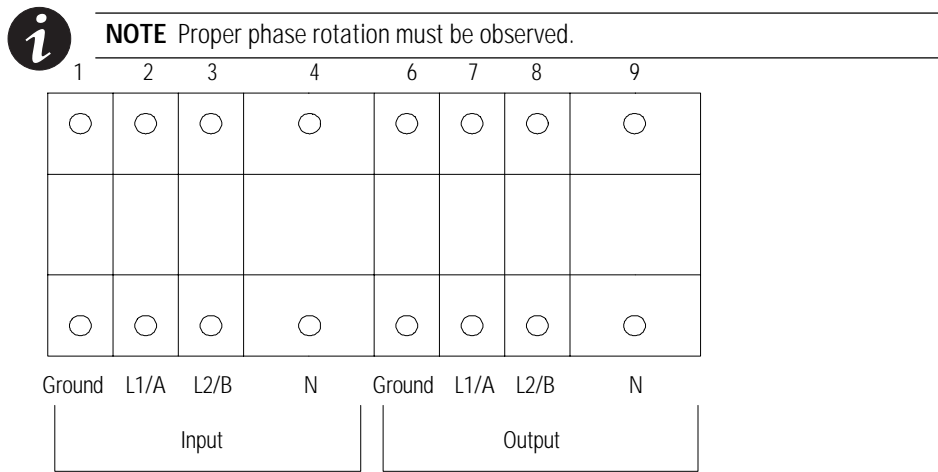

Figure 7. Hardwired Terminal Blocks
7. Hardwire the input (TB1-1 through TB1-4) and output (TB1-6 through TB1-9) terminations for the UPS. See the following hardwired terminations table for specifications. See Figure 7 for a detailed view of the terminal blocks.